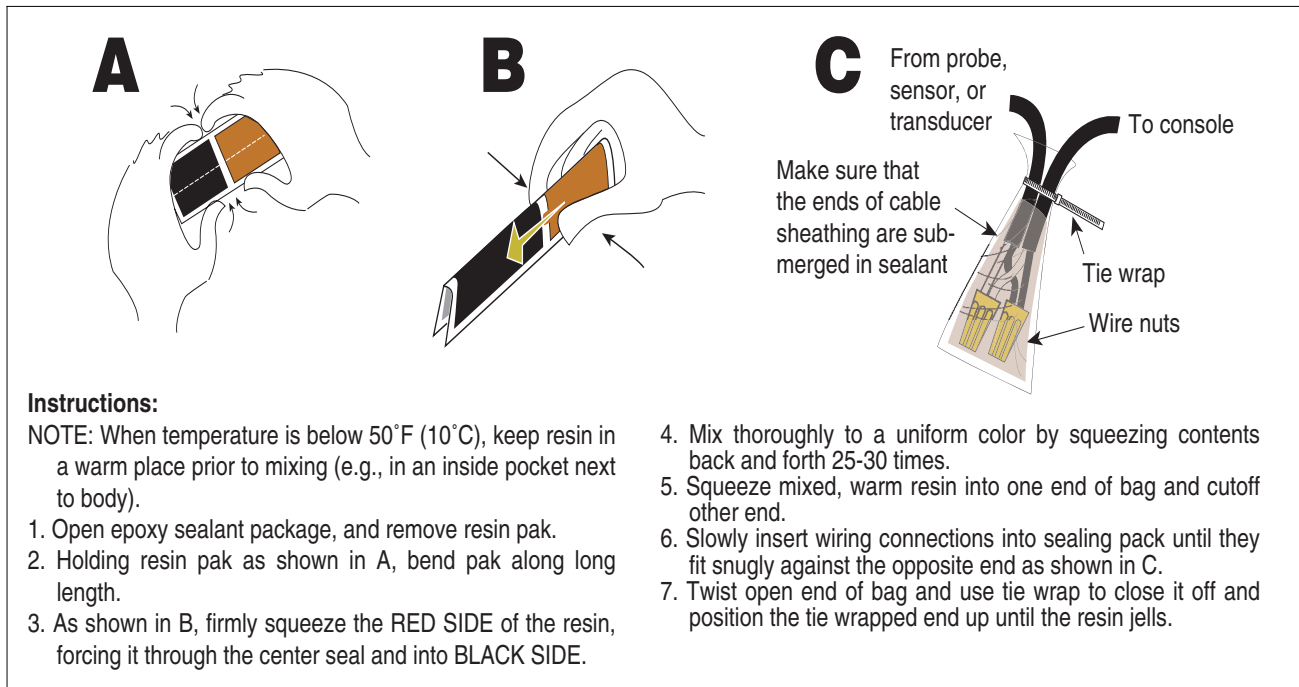

Figure 3. Epoxy sealing field wiring
12. Seal wire nuts in epoxy sealant following the instructions in Figure 3.